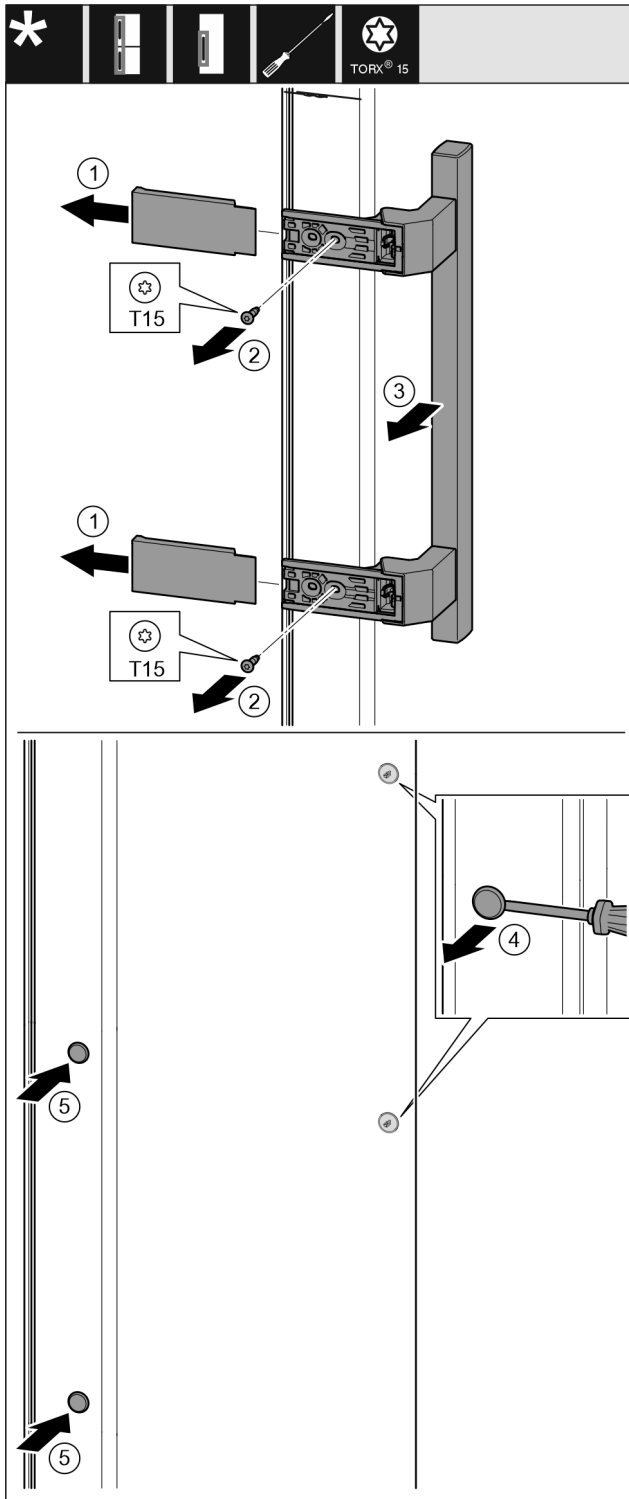

Fig. 17
- ▶ Pull off the cover. Fig. 17 (1)
- ▶ Remove the screws with a T15 screwdriver. Fig. 17 (2)
- ▶ Take off the handle. Fig. 17 (3)
- ▶ Carefully lift up the side plugs with a slotted screwdriver and pull them out. Fig. 17 (4)
- ▶ Insert the plugs again on the other side. Fig. 17 (5)